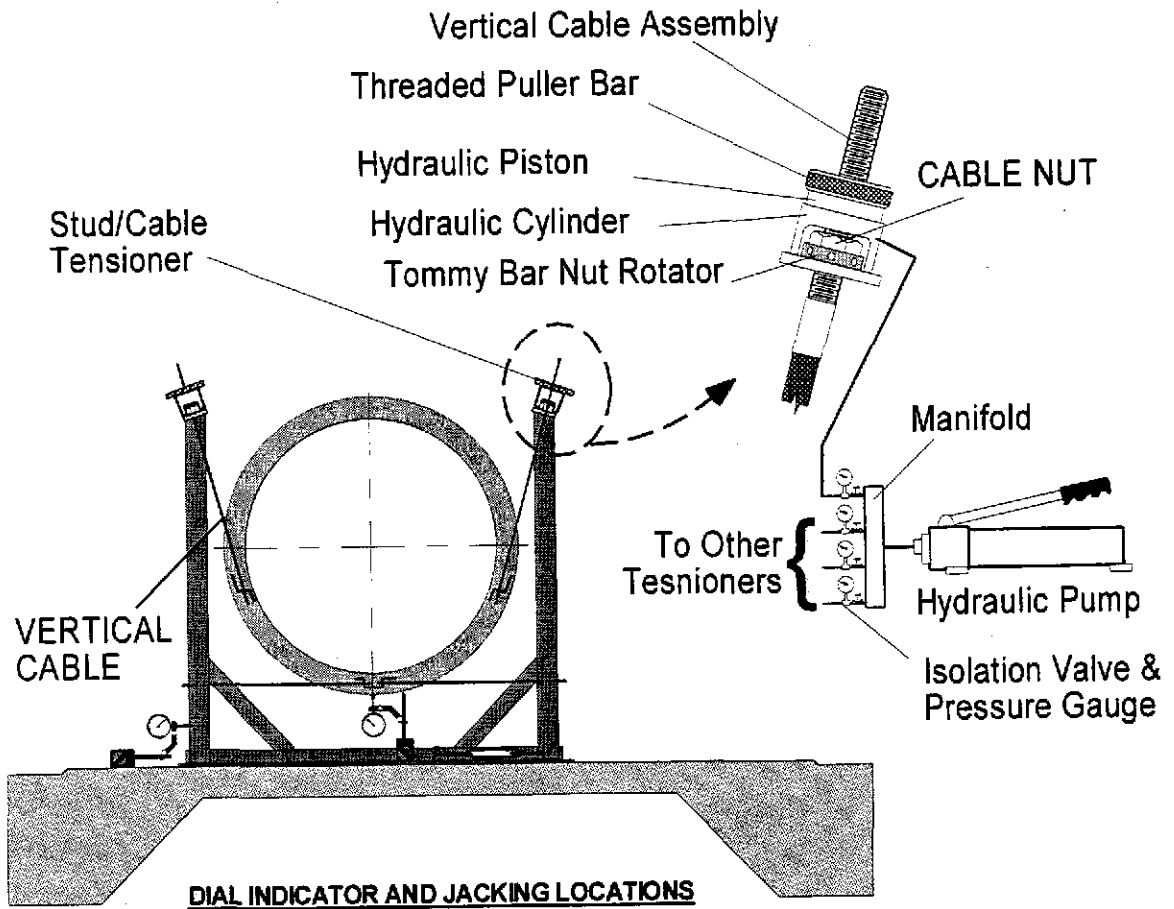

FIGURE 4.1
- 4.4 Once the beam tube is at the desired elevation, set up the hydraulic cable tensioner as shown in Fig 4.1 and confirm that all manifold isolation valves are open. Use the tensioner to evenly apply tension to each cable until the weight of the beam tube is just taken on the